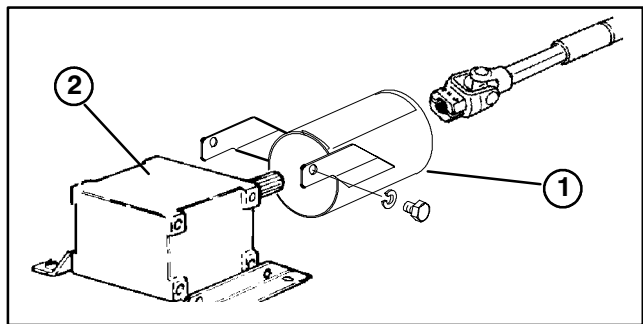

Figure 6
MOUNT PTO SHAFT GUARD AND CONNECT PTO SHAFT TO CUTTING UNIT GEAR BOX (Fig. 6)
1. Remove (2) capscrews and lockwashers securing PTO guard mounting brackets to gearbox (Fig. 6) . Retain fasteners for re–installation.
2. Slide PTO shaft guard onto PTO shaft, positioning guard as shown in figure 6.